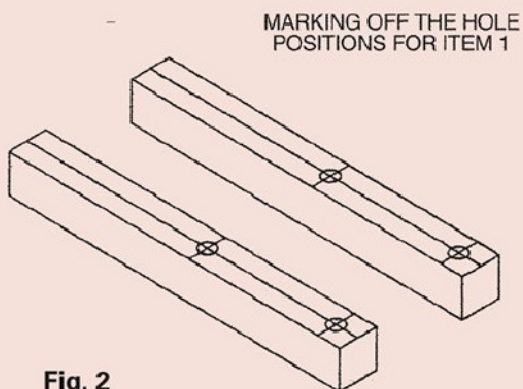
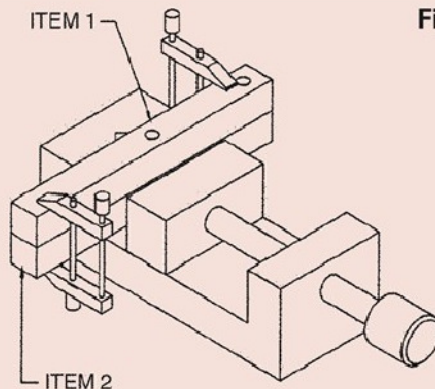

Fig. 2
Fig. 3
With Items 1&2 cut to length, mark off the hole positions for the screwed rod, in Item 1. First wash the surface with marking blue, or use a felt tip pen. Scribe a line in the centre along the length of the bar, see **Fig 2**, and two lines across the bar, one 12mm in from one end of the bar and the other one, at 70mm centres. Drill the two holes through 8.5mm dia, and tap M10. Before tapping the two holes, you will need to transfer the positions of these holes through into the other half of the clamp item 2, with the 8.5mm drill. Clamp the two halves together, and support in the drill vice, see **Fig 3**. Spot through with the 8.5 drill to a depth of 2mm, or just passed the lip of the drill.